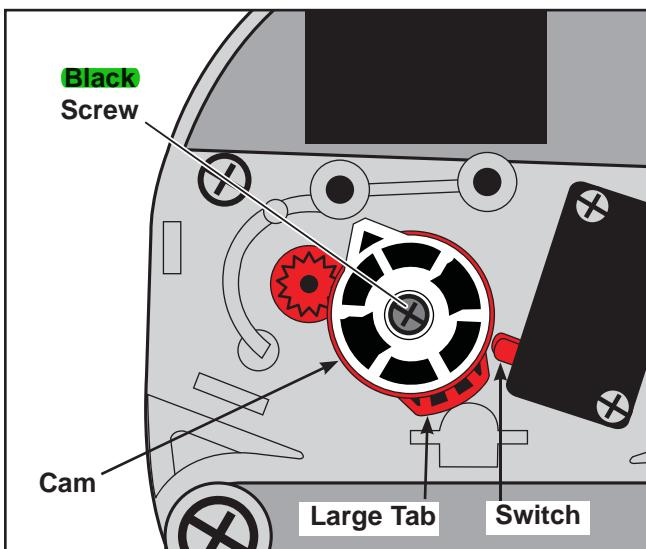

Figure 8
- Place the cam assembly from step 7B onto the elevation motor as shown in Figure 8.